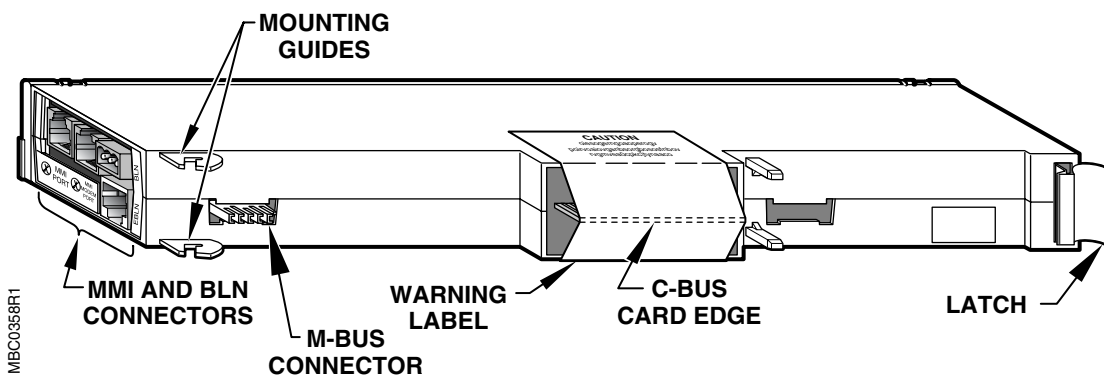

Figure 4. Rear View of the Power Open Processor.
5. If there is a warning label over the C-Bus card on the back of the Power Open Processor/Open Processor, remove it (see Figure 4).
6. Remove the protective cap from the C-Bus card edge (see Figure 4).
- a. *Open Processor/Protocol 2*, plug the ALN connector into the corresponding port on the right side labeled BLN + – S (see Figure 4). The screws for the connector should be pointing down.
7. If there is a warning label over the C-Bus card on the back of the Power Open Processor/Open Processor, remove it (see Figure 4).
8. Remove the protective cap from the C-Bus card edge (see Figure 4).
- a. An *Open Processor/Protocol 2*, plug the ALN connector into the corresponding port on the right side labeled BLN + – S (see Figure 4). The screws for the connector should be pointing down.